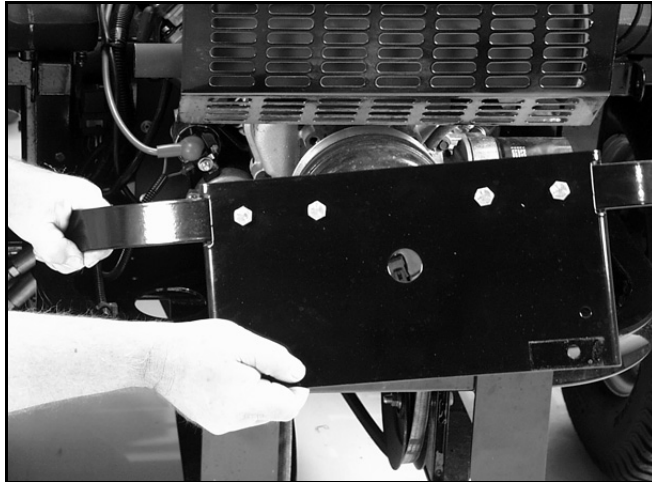

Figure 135
2. Remove the 4 bolts securing the PTO clutch guard and remove the guard (Figure 135).